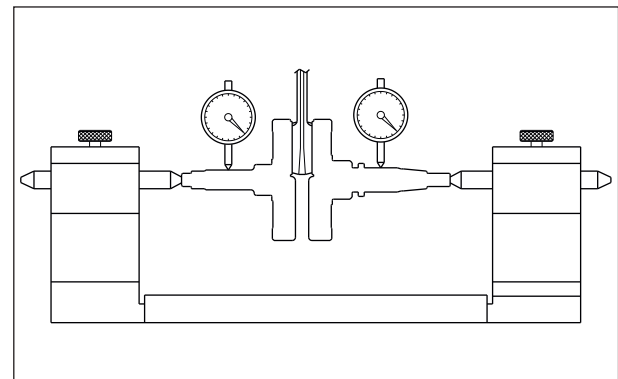

Fig. 3.170
- Mount the dial indicator at positions shown to read the runout. Runout should be within the service limit. (Fig. 3.170)